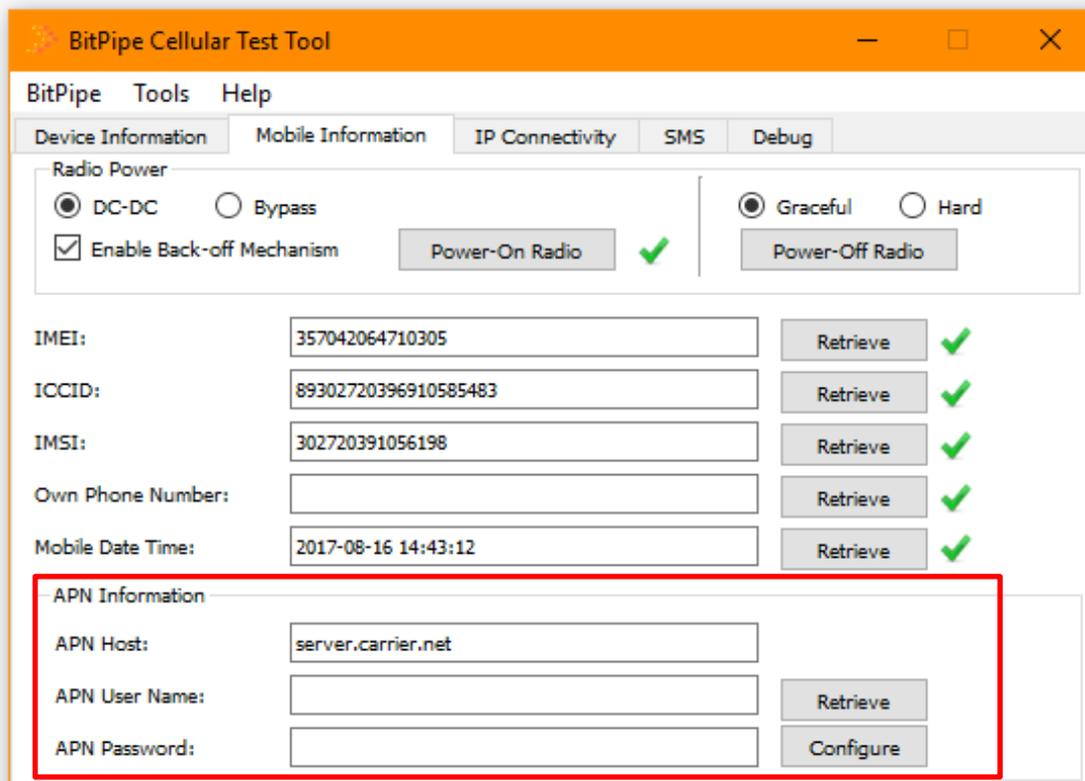

Figure 16: Configure APN
11. To enable the data service, configure the APN by entering the APN Host, user name and password (see Figure 16). If the APN does not require a user name or password, leave the “APN User Name” and “APN Password” text fields blank. Then click on “Configure”.